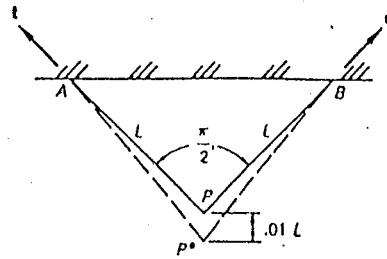

Fig. P2.32
2.32. A thin triangular plate is deformed as indicated in Fig. P2.32. Compute approximately the shear strain $\gamma_{xt}(P)$.